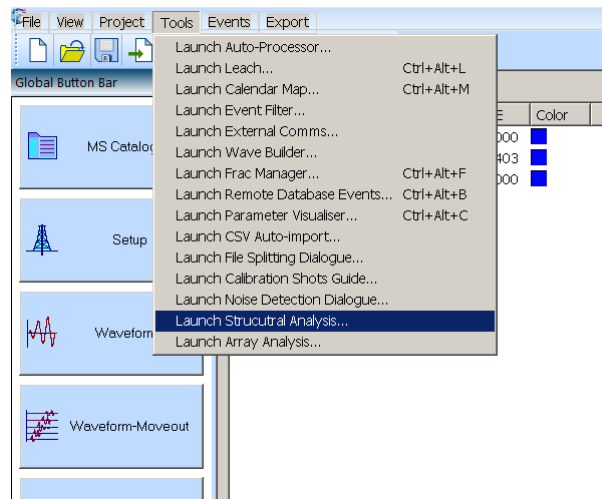

Figure 15-3: Tool Menu to Launch the Structural Analysis Tool.
2. Launch the structure analysis tool (Figure 15-3): from the Data Visualiser go to Tools > Launch Structural Analysis Tool, which will launch the configuration menu.